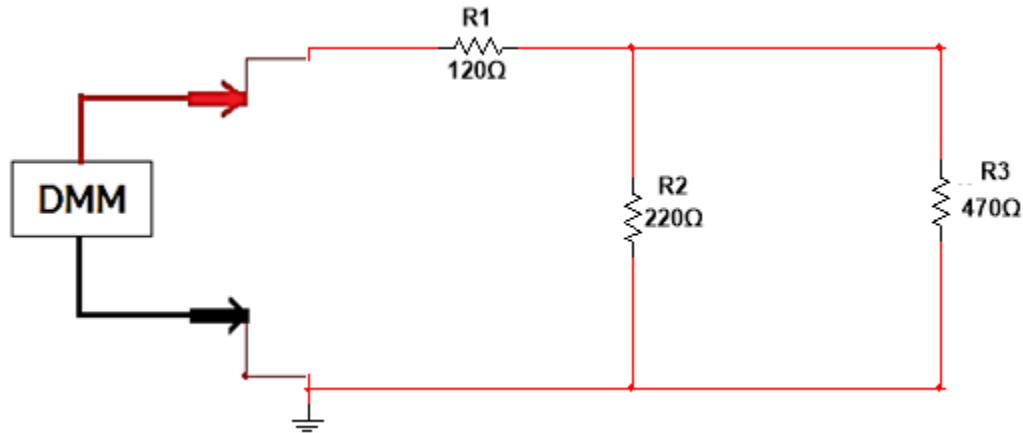

Figure 9.1 – Measuring total resistance using a DMM
4. Before connecting the power source to Circuit 9.1, measure the total resistance as seen by the source terminals and record the measurement in Table 9.1. Check Figure 9.1 for reference.